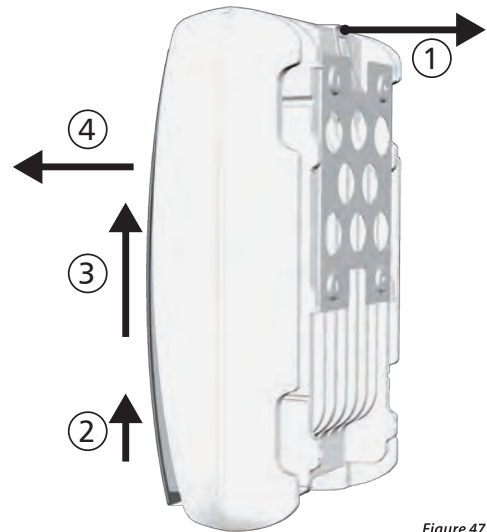

Figure 47
1. Use one hand to press the retaining plate on the mounting plate approx. 5 mm (0,20 in) towards the mounting surface ① (Figure 47)
2. Use the other hand to push the inverter upwards, far enough so that the retaining plate no longer latches ② Release the retaining plate.
3. Lift the inverter with both hands until the hooks on the rear side of the inverter are free ③
4. Remove the inverter from the mounting surface ④